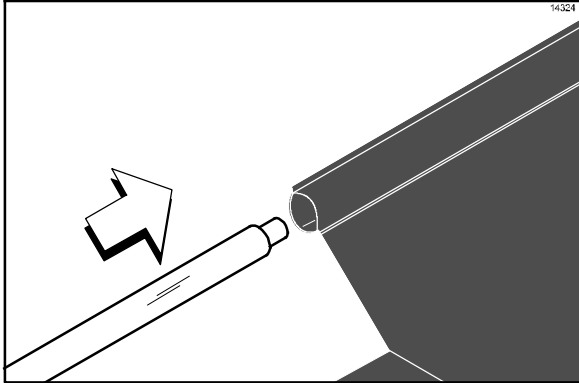

Figure 8
1. Slide the release material retention bar through the loop in the release sheet. (See Figure 8.)